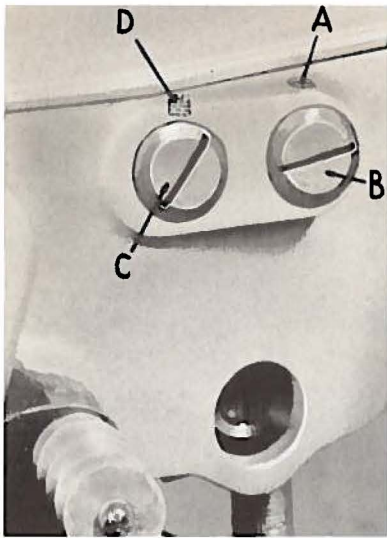

Fig. 4
Teeth of two cups must engage their full depth. Set screw (A, Fig. 4) releases stud (B), controlling cam under head of casting. Turn stud until spring pressure against stud is removed. Allow front feed cup to bear against rear cup while turning this front stud counterclockwise until a contact between the cam on the stud and the front feed cup separating lever can barely be felt. Then, turn stud clockwise $\frac{1}{8}$ of a turn. Retighten set screw.
The rear stud (C, Fig. 4) is used to set the degree to which the front feed cup can be opened. (Note: The set screw (D, Fig. 4) holding the stud controlling the rear can is located under top cover just above stud.)